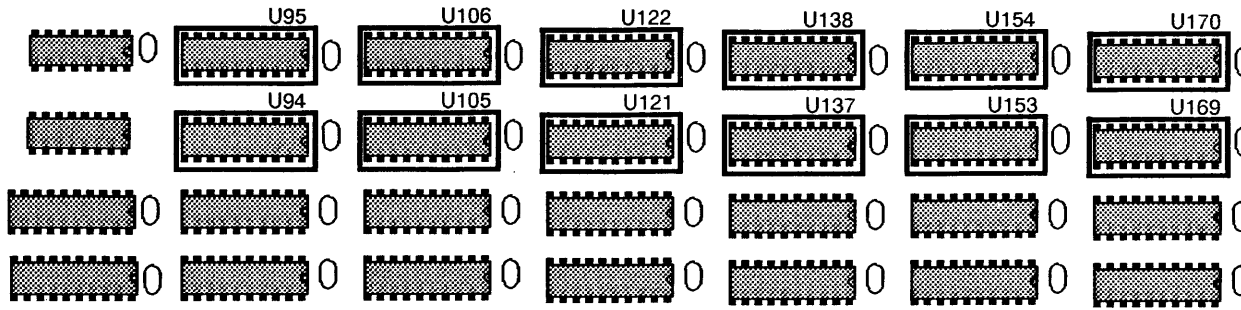

Figure 14. MPB PWB - 140K0416X Series
1. Locate the sockets that will receive the 12 chips (Figure 14 or 14A).
NOTE: Check the part number of the MPB PWB to determine whether to use Figure 14 or 14A to locate the control store chip sockets. Figure 4-14 is used with the 140K0416X series of MPB PWBs and Figure 4-14A is used with the 140K0557X series of MPB PWBs.